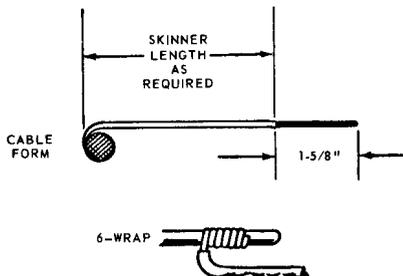

FIGURE 18. Skinned Wire Required for a Solderless Connection
- 7.01 *Solderless Wrapped Connections:* The *minimum* number of turns around the terminal shall be 6 complete turns for 24-gauge wire, and 5 complete turns for 22-gauge wire. A skinned length of 1-5/8 inches should be sufficient for 22- and 24-gauge wire to permit the required number of turns around the terminal. See Figure 18. More than the required number of turns is permissible. To be sure satisfactory connections are being made, check them periodically.